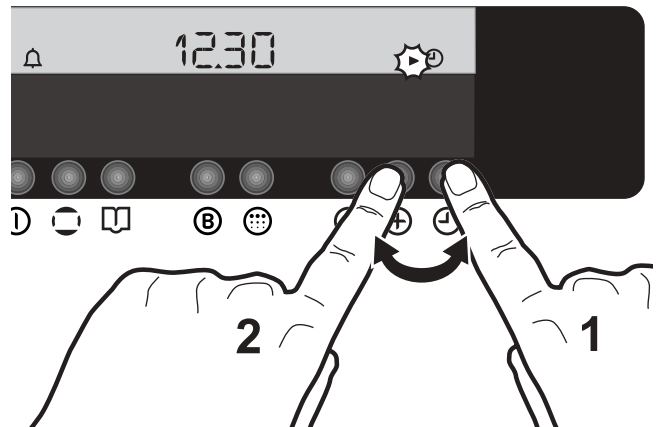

Fig. 2
1. Press the "Time Function Button" ⌚. While symbol ► flashes near the "Clock Symbol" ⌚, set the current time of day pressing buttons - or + (Fig. 2). Once you have set the time, the symbol ► keeps flashing for 5 seconds and then disappears. This means that the setting has been stored in the Electronic Control memory.